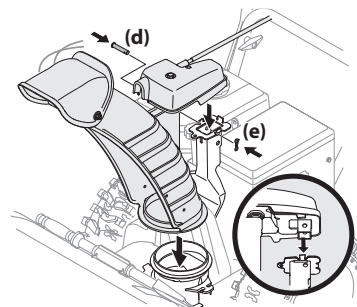

Figure 2-44
3. Place chute onto chute base and ensure chute control rod is positioned under handle panel. Secure chute control head to chute support bracket with clevis pin (d) and bow-tie cotter pin (e) removed in Step 1. See Figure 2-44.